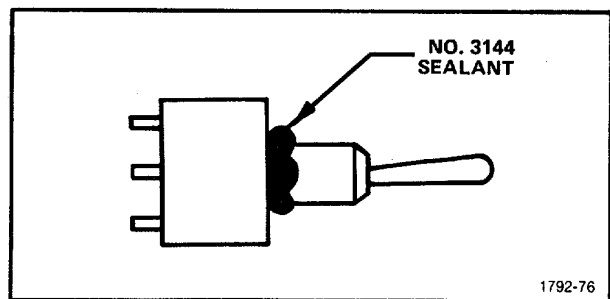

Figure 5-23. Application of sealant to RECORD toggle-switch bushing.
**21. Install the Record control (see Figs. 5-23, 5-24, and 5-25)**
1. Form a bead of No. 3144 sealant around the bushing/switch body interface as shown in Fig. 5-23.